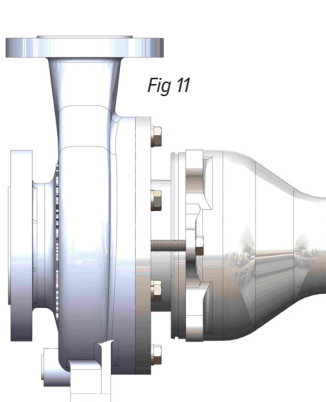

Fig 11
5. Separate the magnetic coupling between the drive end and the pump end by using the two jackscrews (item 14). Using a 24 mm socket turn the jackscrews clockwise. Be sure to turn the jackscrews evenly. Turn the jackscrews until they are fully extended. See figure 11.